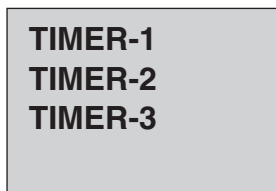

Fig. 4
4. The display window shows the three parameters. (See figure 4)